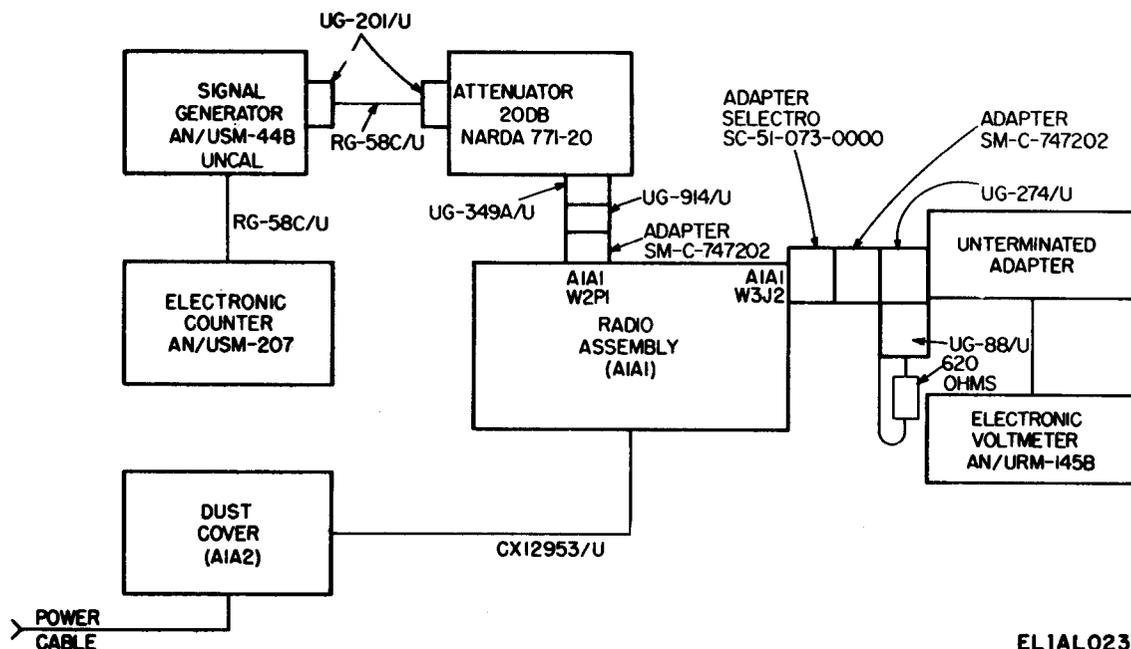

Figure 6-15. IF amplifier assembly test connections.
(1) Remove the receiver from the dust cover and remove detector assembly (A1A1A4) (para 6-6).
(2) Disconnect connector A1A1W2P1 from the rf tuner motherboard.
(3) Perform the preliminary test setup (para 6-12).
(4) Connect the test equipment as shown in figure 6-15.